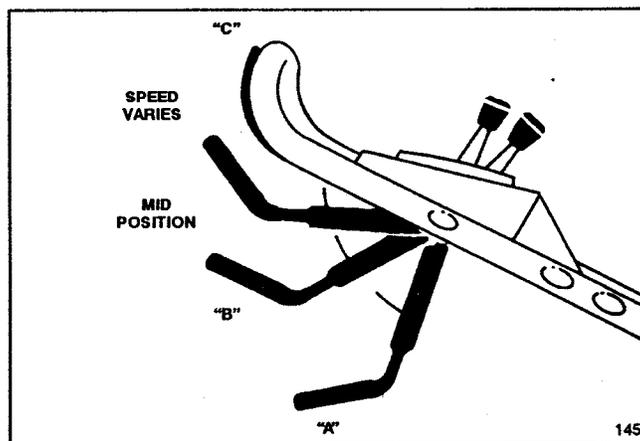

Figure 8
6. **BLADE AND TRACTION OPERATION** (Fig. 8)—Move control bar down to "A" and raise to "B" to engage blade. Squeeze control bar against handle "C" to drive. Ground speed varies, depending on space between control bar and handle. To disengage traction drive but keep blade engaged, gradually release control bar to mid position. To self-propel with blade disengaged, simply squeeze control bar against handle, eliminating downward movement necessary for blade engagement.
7. **STOPPING** (Fig. 8)—Release control bar to stop blade and traction drive. Move ground speed control to "N". To stop engine, move throttle to **OFF**. Remove key from switch on electric start model or pull wire off spark plug if mower will be unattended or not used.